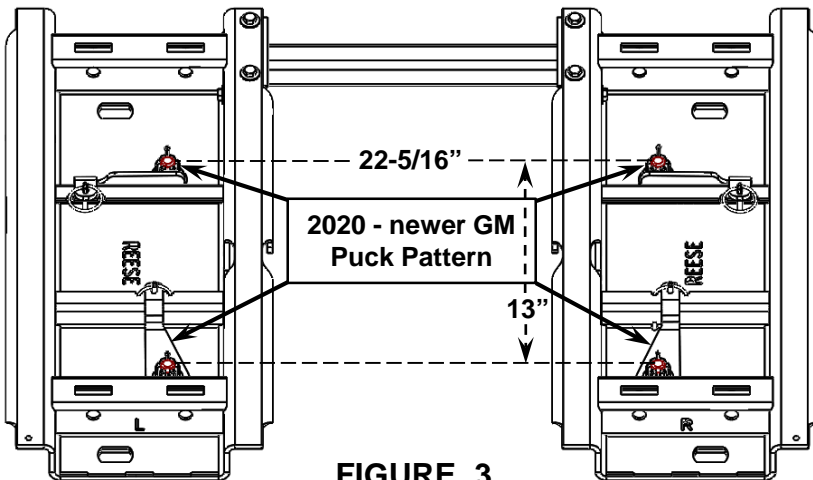

FIGURE 3
1. Identify which pattern your truck has or model year (See Figure 3). Select and install the tee pins, tee pin bushings, handles, and castle nuts as shown (See Figure 1). Caution: the tee pin bushing has the larger diameter hole pointing down. Finger tighten castle nut but don't install the lynch pin yet. This will be done after final adjustments in the truck.
3. Rotate (4) handles into locked/closed position
5. Place lynch/bail pins through the handle holes as shown above (Figure 3).
1. Remove lynch/bail pin from the handle holes on the adapter (Figure 3). Store lynch pins.
2. Rotate (4) handles into unlocked position (shown below).